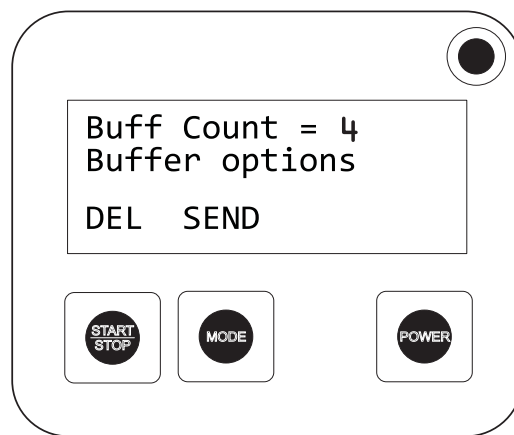

Figure 14 Buffer options screen
1. Press the **MODE** key three times on the Main screen. The bottom line displays the number of records in the Buff Count field (refer to Figure 14).